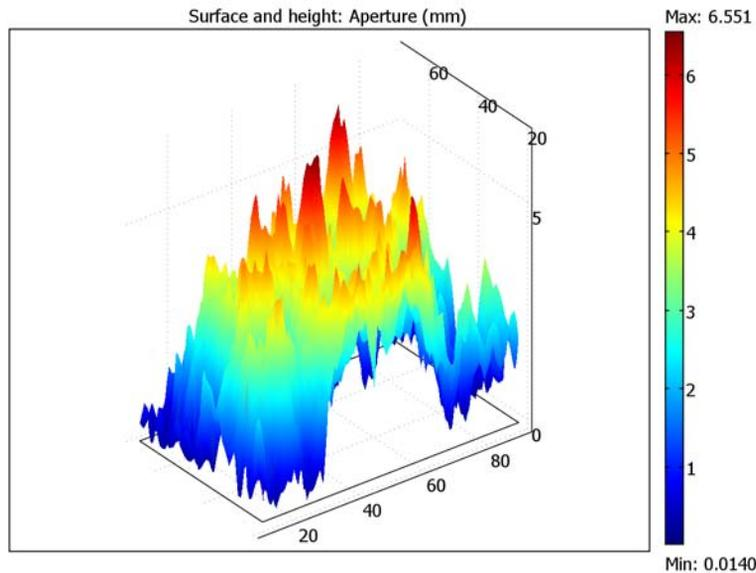

Figure 7-6: The interpolated aperture data shown as a combined surface and height plot.
The plot in Figure 7-6 on page 286 provides a visualization of the aperture data.
- 10 Click **OK** twice to close the dialog boxes and create the plot in Figure 7-6 on page 286.